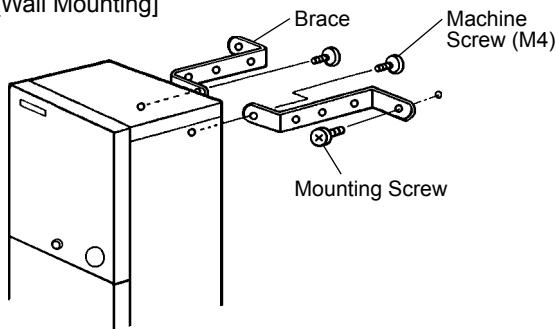

Fig. 2
- * Secure the ice dispenser to the wall by using the braces (accessories) and mounting screws (not supplied). Bend the braces according to the installation condition. See Fig. 2.